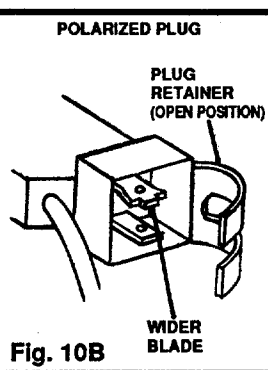

Fig. 10B
**NOTE:** Your mower is equipped with a polarized AC power plug (one blade of the plug is wider than the other), which will fit into the power extension cord connector only one way (See Fig. 10B). Should you be unable to insert the cord connector fully onto the switch box plug, try reversing the cord connector. Should the connector still fail to fit, contact your dealer for assistance. Do not defeat the safety purpose of the polarized plug.